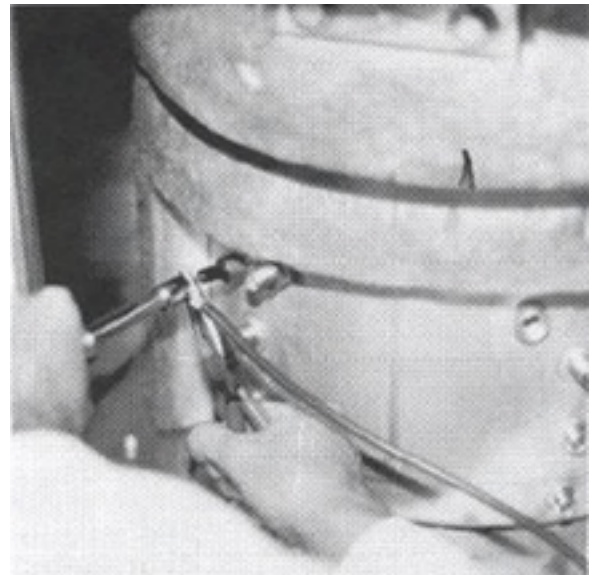

FIG.1
3. Remove the four (4) screws securing escutcheon to relay panel and save for reuse. Lower escutcheon slowly until secure in open position.
4. Utilizing caution, hold heater end behind wire terminal and remove hex nut marking wire location prior to removal to ensure proper connection to new heater (See Figure 1).
6. Remove the two (2) pieces of insulation gaining access to heater compression nuts and save for reuse.